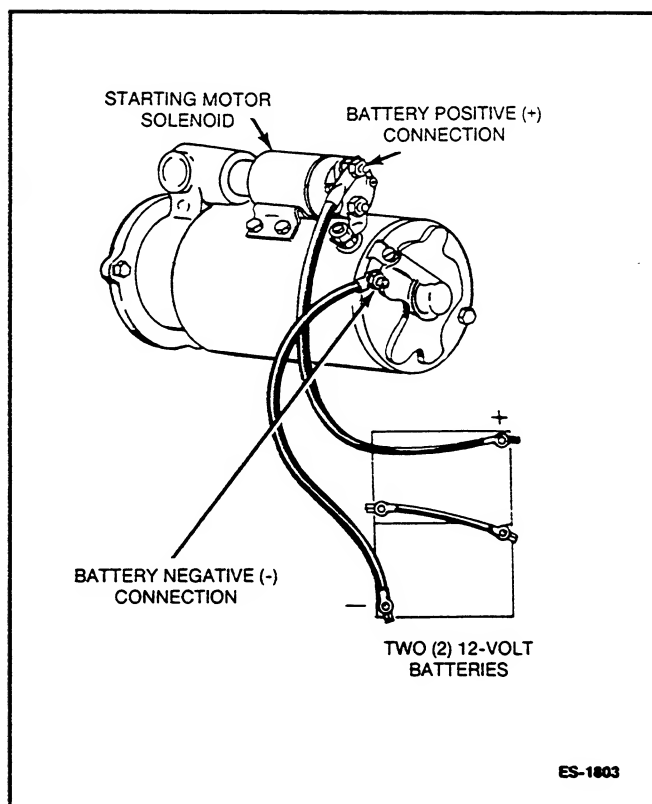

FIGURE 5-17. BATTERY CONNECTIONS
**Battery Connections:** Starting the unit requires 24-volt battery current. Use two 12-volt batteries for a normal installation (see Figure 5-17). Connect the batteries in series (negative post of first battery to positive post of second). Normal installation battery cables are included. Increase the cable size if batteries are located remotely from generator set. Service the batteries as necessary. Infrequent unit use (as in emergency standby service) may allow the batteries to discharge to the point where they cannot start the unit. Connect a float charger to the batteries to avoid self-discharge problems.